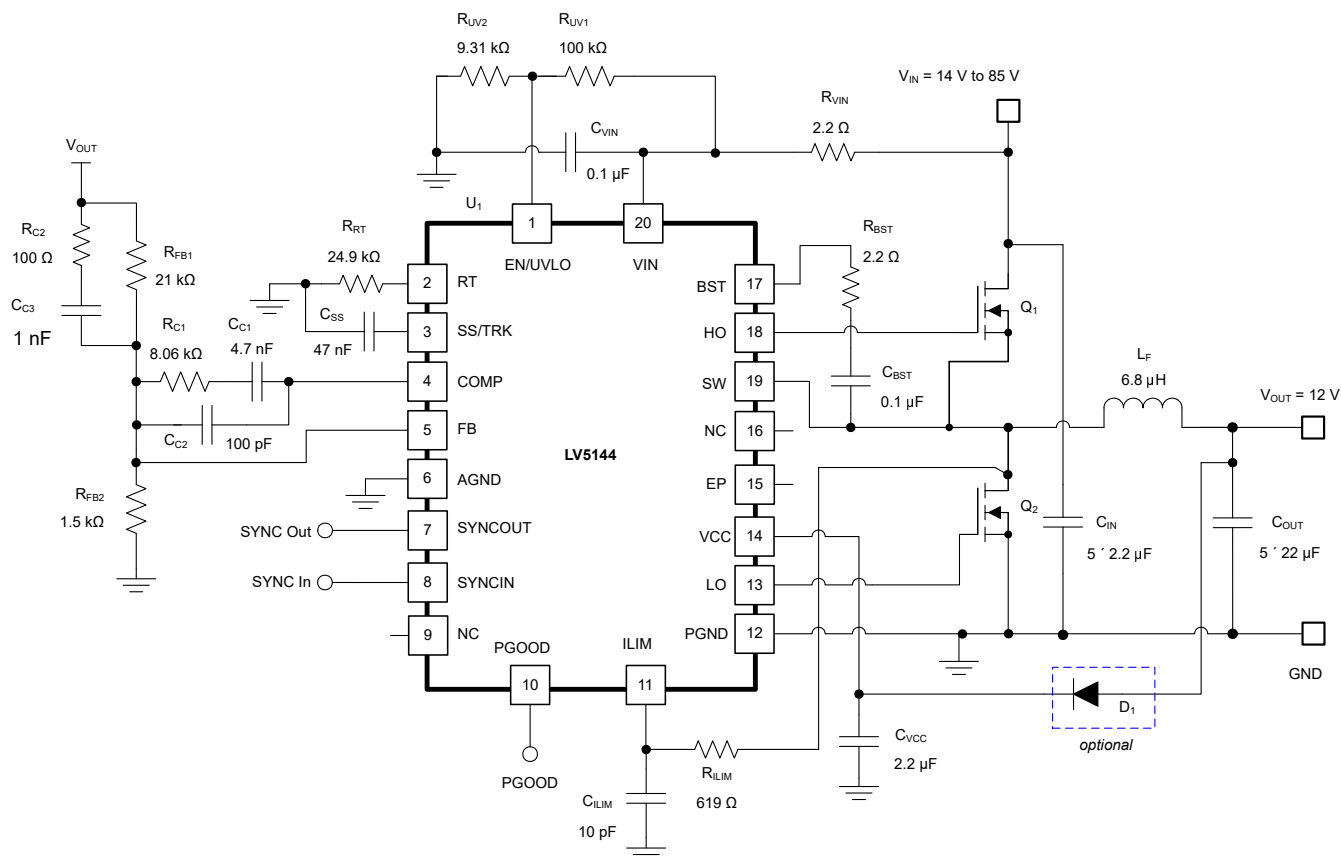

Figure 9-16. Application Circuit 2 With LV5144 48-V to 12-A Synchronous Buck Regulator at 400 kHz
Figure 9-16 shows the schematic diagram of a 400-kHz, 12-V output, 8-A synchronous buck regulator intended for 48-V telecom applications.
As shown in 图 9-16, a 2.2- Ω resistor in series with C_{BST} is used to slow the turn-on transition of the high-side MOSFET, reducing the spike amplitude and ringing of the SW node voltage and minimizing the possibility of C_{dv}/dt -induced shoot-through of the low-side MOSFET. If needed, place an RC snubber (for example, 2.2 Ω and 100 pF) close to the drain (SW node) and source (PGND) terminals of the low-side MOSFET to further attenuate any SW node voltage overshoot or ringing. Please refer to the application note Reduce Buck Converter EMI and Voltage Stress by Minimizing Inductive Parasitics for more detail.
3. Placing a 2- Ω to 10- Ω resistor in series with the boot capacitor, as shown in Figure 9-16, slows down the high-side MOSFET turn-on transition, serving to reduce the voltage ringing and peak amplitude at the SW node at the expense of increased MOSFET turn-on power loss.